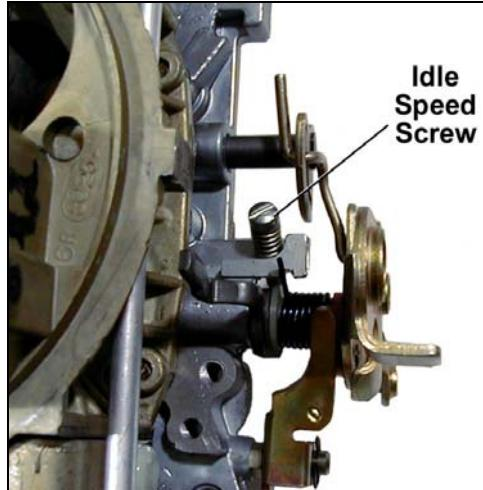

Figure 3
19. With the engine at operating temperature, set the idle speed to the manufacturer's specifications by adjusting the idle speed screw (Fig. 3). Consult the emission control sticker to the manufacturer's service manual for the correct procedure for setting idle speed.